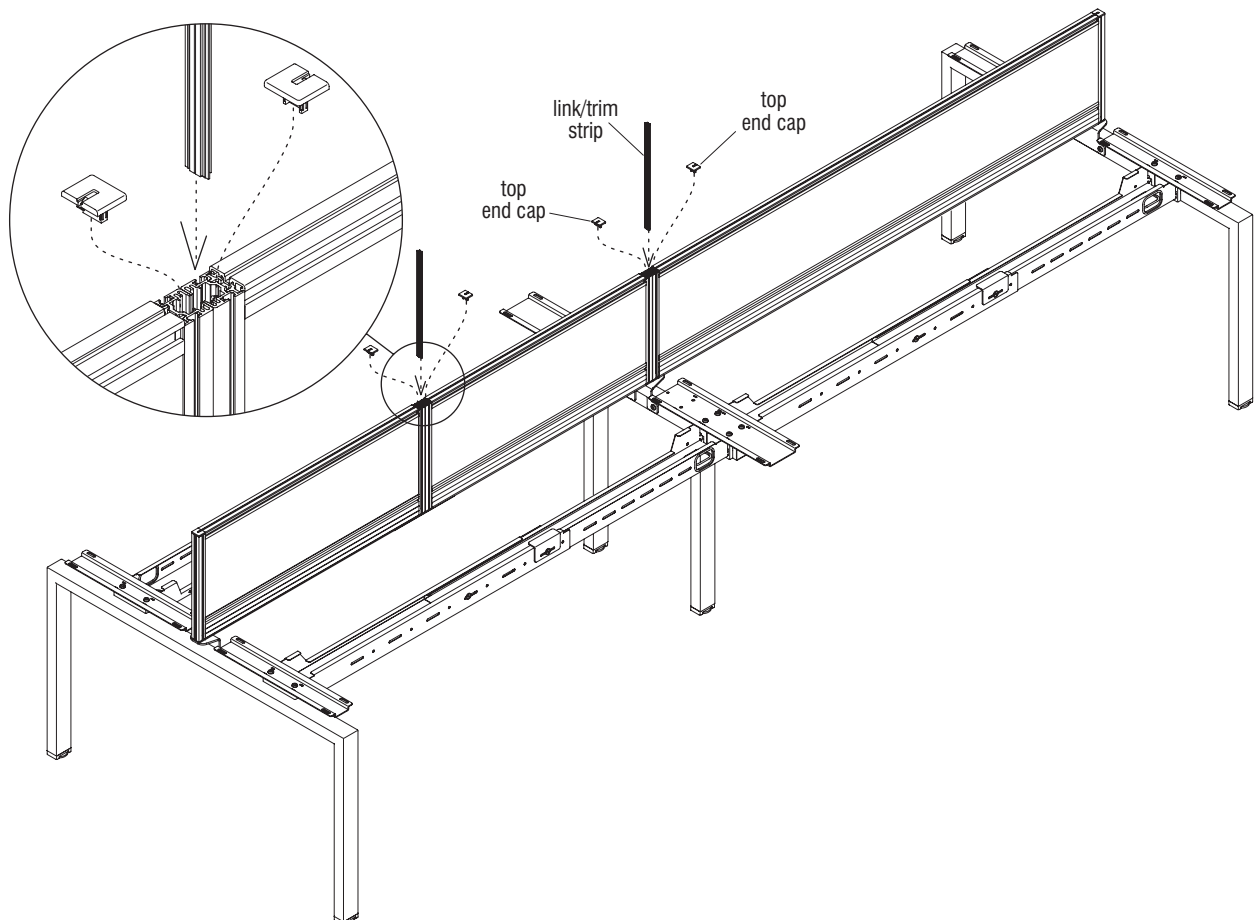

Figure 2 - Dual-Sided Benching - Brackets and Privacy Screen Installation
10. Where privacy screens are mounted on inline privacy screen brackets, take one previously removed link/trim strip and insert it down through both frame extrusions such that the strip joins both frames together. Discard the unused link/trim strips (Figure 2).
11. If no dividers are to be installed, replace all top end caps to privacy screens as illustrated (Figure 2).